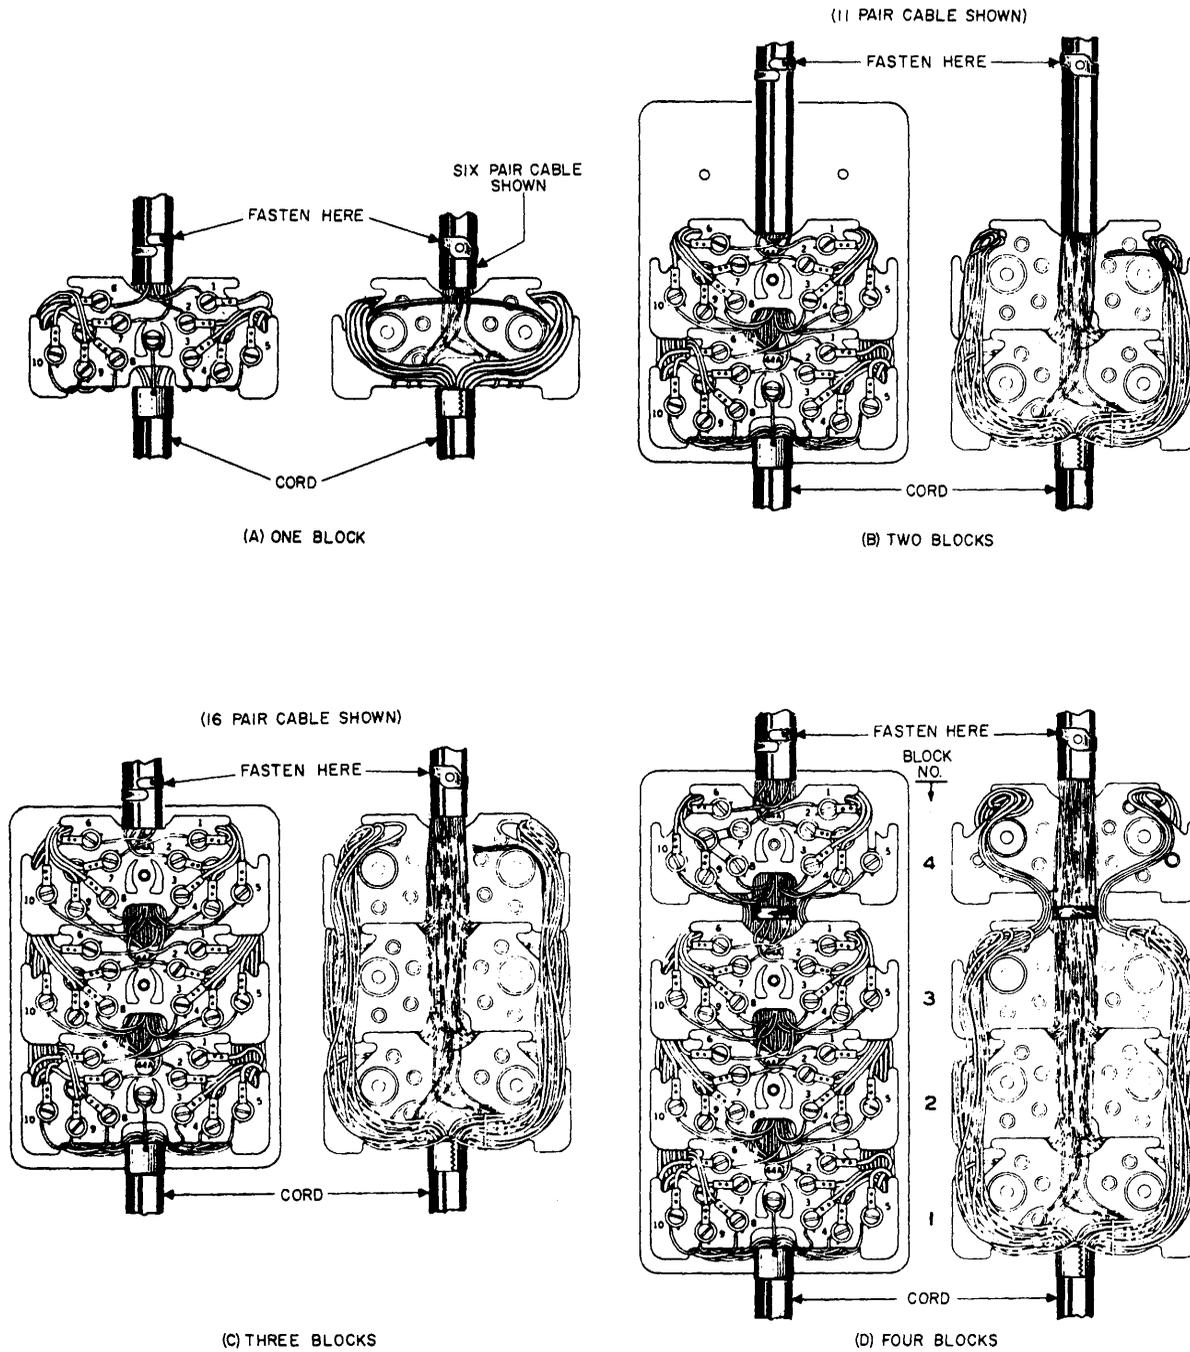

Figure 28. Terminating Inside Wiring Cable on Number 44A Connecting Blocks.
7.05 The number 44A connecting blocks are suitable only for line cords equipped with a long S-hook strain relief, and may be used singly or in groups of from two to four. 101-type covers and 168-type backboards are available for single blocks and for groups of three and four. As shown in Figure 28, the inside wiring cable conductors pass under the group of blocks from top to bottom through the channel
8.02 For number 44 connecting blocks, follow the terminating sequence and color code shown in Table 2. Refer to Figure 28 for terminal locations.